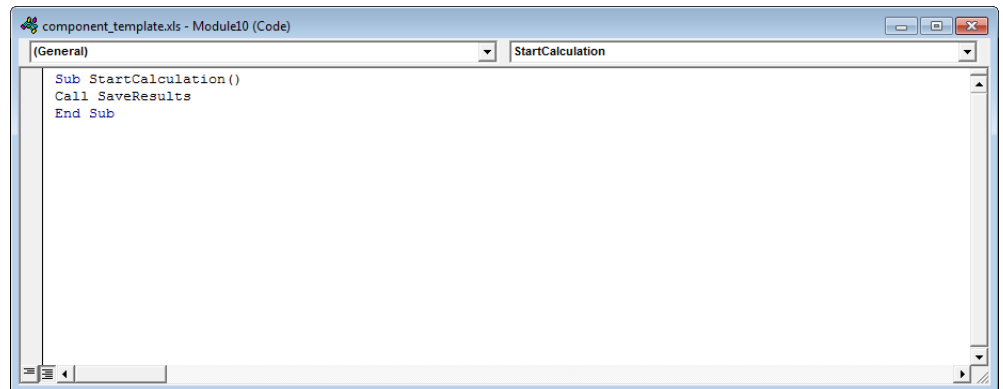

Figure 5.16 *Call SaveResults*
4. Add a call for the previously created macro - in our case named *SaveResults* - by adding the line of code `Call SaveResults` as shown in figure 5.16.